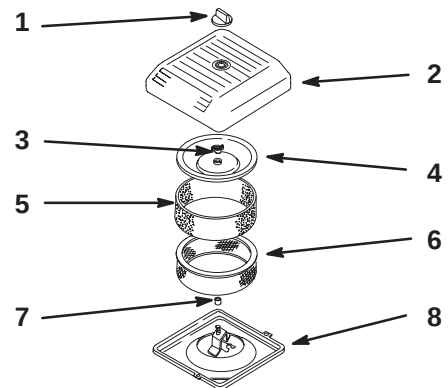

Figure 26
4. Unscrew the knob and remove the air cleaner cover (Fig. 26).
5. Carefully slide the foam pre-filter off of the paper element (Fig. 26).
6. Unscrew the cover nut and remove the cover and paper filter (Fig. 26).
1. Carefully slide the foam pre-filter onto the paper filter (Fig. 26).
2. Place the air cleaner assembly onto the air cleaner base (Fig. 26).
3. Install the cover and secure it with the wingnut (Fig. 26).
4. Install the air cleaner cover and secure with the knob (Fig. 26).